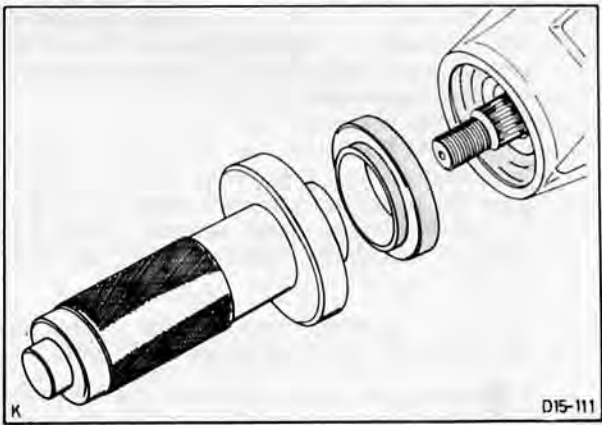

Fig. 50. Press on oil seal with special tool no. 15-047
35. Detach drive pinion flange and fit new seal with Special Tool No. 15-047, Fig. 50. Grease on seal as supplied must not be removed.